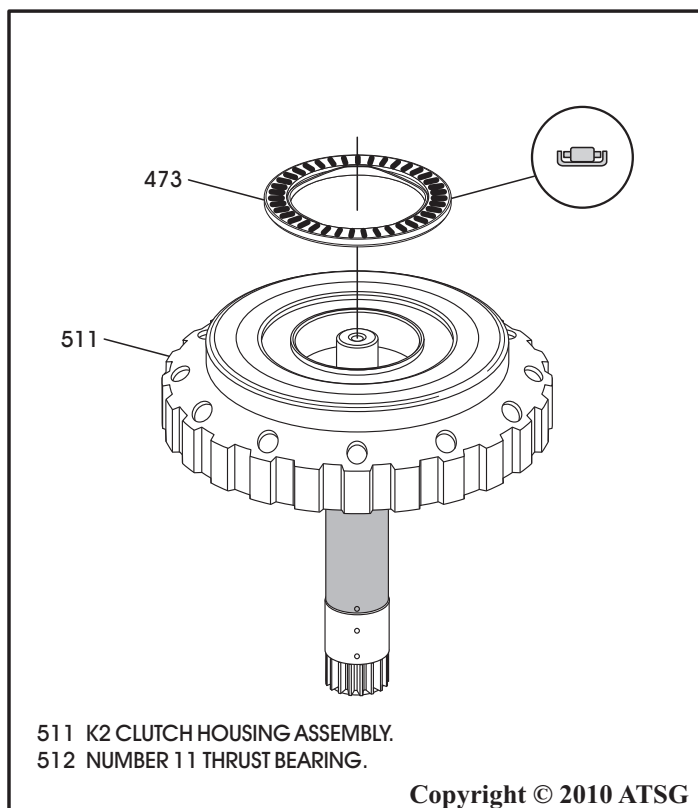

Figure 126
15. Turn the K2 clutch housing assembly over and install the number 11 thrust bearing, as shown in Figure 126, with the needles facing up.